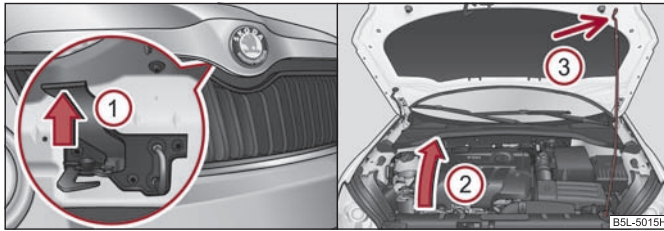

Fig. 13 Radiator grille: Locking lever / securing the bonnet with the bonnet support
- Pressing on the locking lever in direction of arrow (1) ⇒ fig. 13 will unlock the bonnet.
- Take the bonnet support out of its holder in direction of arrow (2) and secure the opened bonnet by inserting the end of the support in the opening (3) ⇒ fig. 13 designed for it.